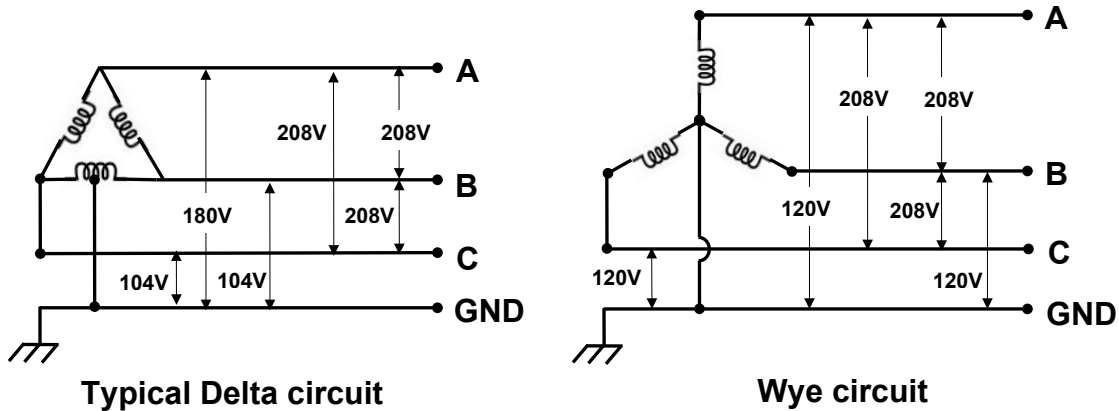

Figure 23: AC input wiring diagrams
- The REVOLUTION chargers require a 208 VAC 3Ø, four-wire Wye or Delta electrical supply with a separate ground (Figure 23).